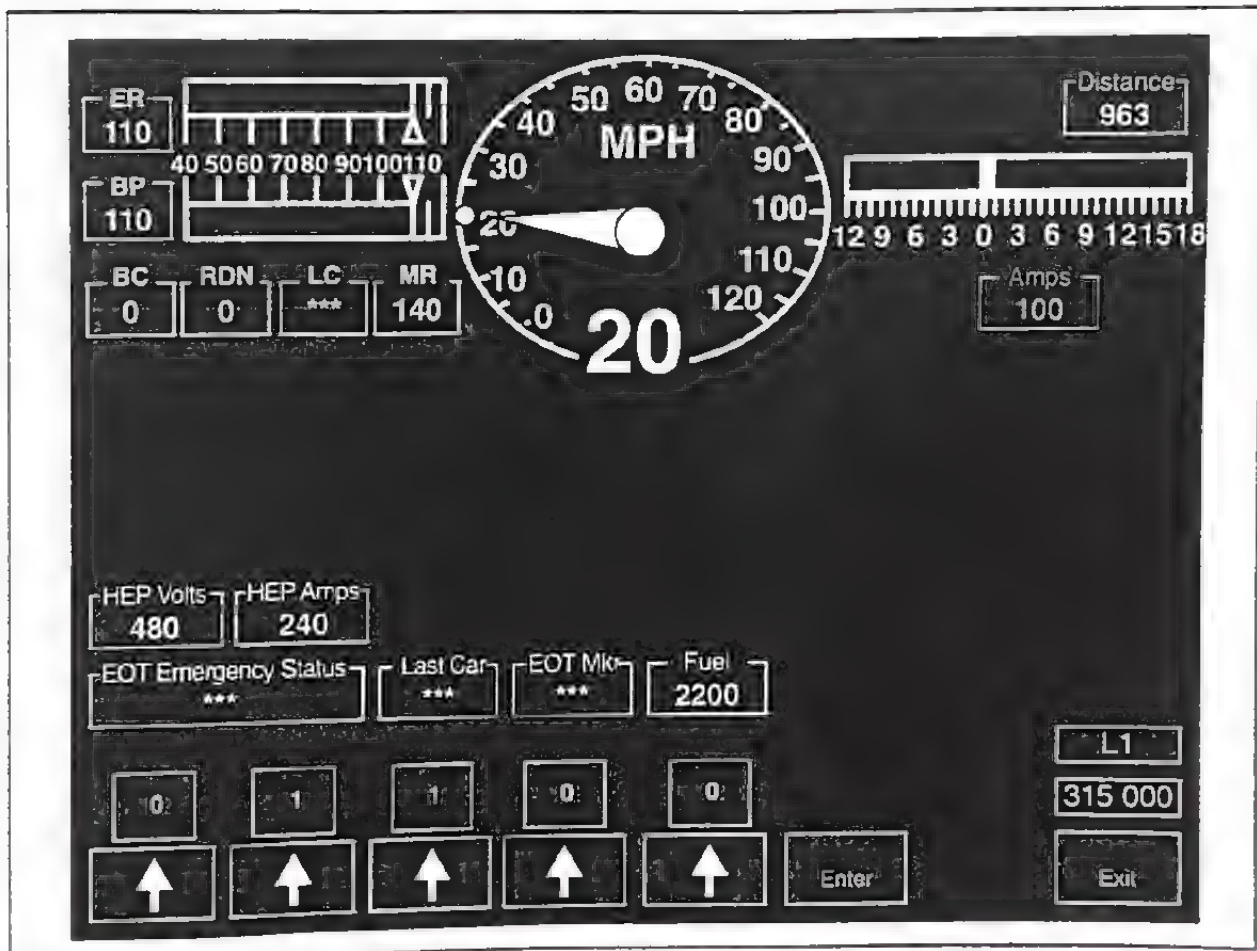

FIG. 64. DISTANCE COUNTER PRESET SCREEN (315 000). E-42583.
5. Press key position F5 (Preset Counter) will display screen 315 000 (Fig. 64). **Note: This key is only active if the counter is stopped.** The active keys and a brief description of operation are as follows: